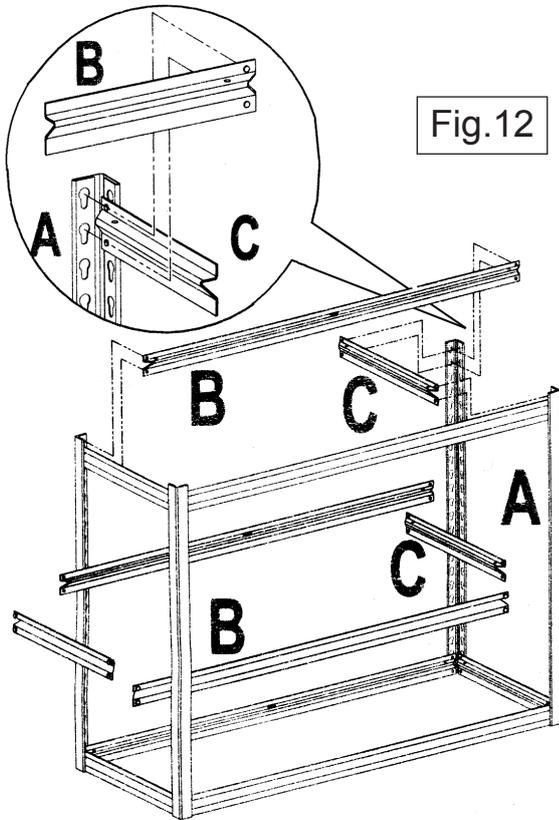

Fig.12
**4.10 HALF HEIGHT STORAGE STATION. See Fig.12.** Follow steps 4.2 and 4.3 to create a bottom frame with four 'A' posts attached. Using two long 'Z' beams (B) and two short 'Z' beams (C) build a shelf support level at the top of the angle posts (A). Tap the beams at either end, close to each angle post with a rubber mallet to ensure that the rivets are seated at the bottom of the keyhole slots. Build another shelf support level at the desired height within the frame using additional long and short 'Z' beams and ensure that the rivets are seated at the bottom of the keyhole slots.